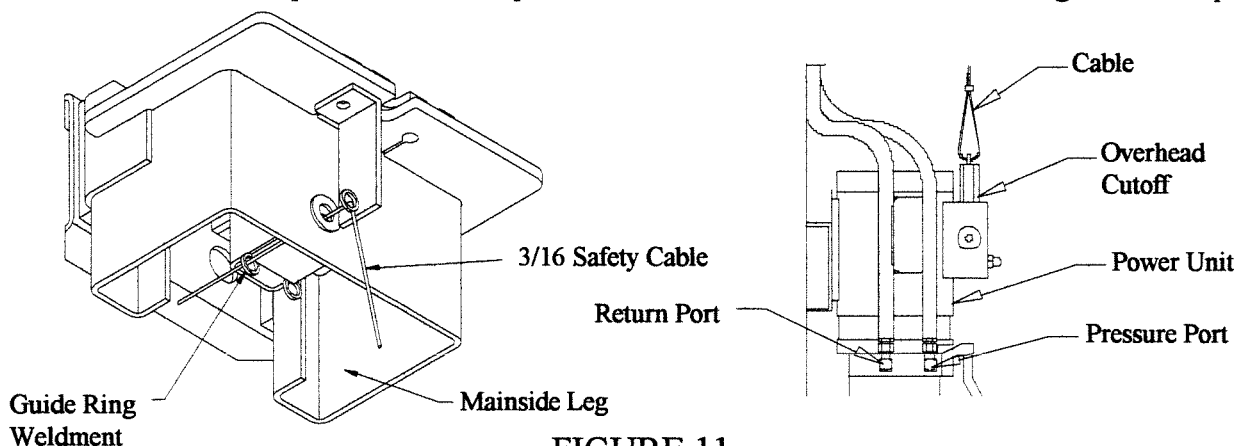

FIGURE 11
23. Strip approximately 8" from the end of the plastic coated 1/16" cable. Loop this end through the ring on the cylinder mount weldment on the offside leg and secure with a squeeze clamp. Thread the cable through the lift to the power unit as shown in Figure 11. On top of the conduit box of the power unit is the pull rod for the cable. Cut the cable 6" longer than the pull
24. The power unit has two ports on its left side. On this side, the port on the left is the **return port**. The port on the right is the **pressure port**. See Figure 11 on previous page. Attach a 3/8" Male Pipe to 3/8" Male JIC 90 elbow to the return port. Attach a 3/8" O-Ring to 3/8" Male JIC to the pressure port. To the 3/8" O-Ring fitting, attach a 3/8" JIC Swivel Nut 90. Route the hoses as shown in Figure 11.